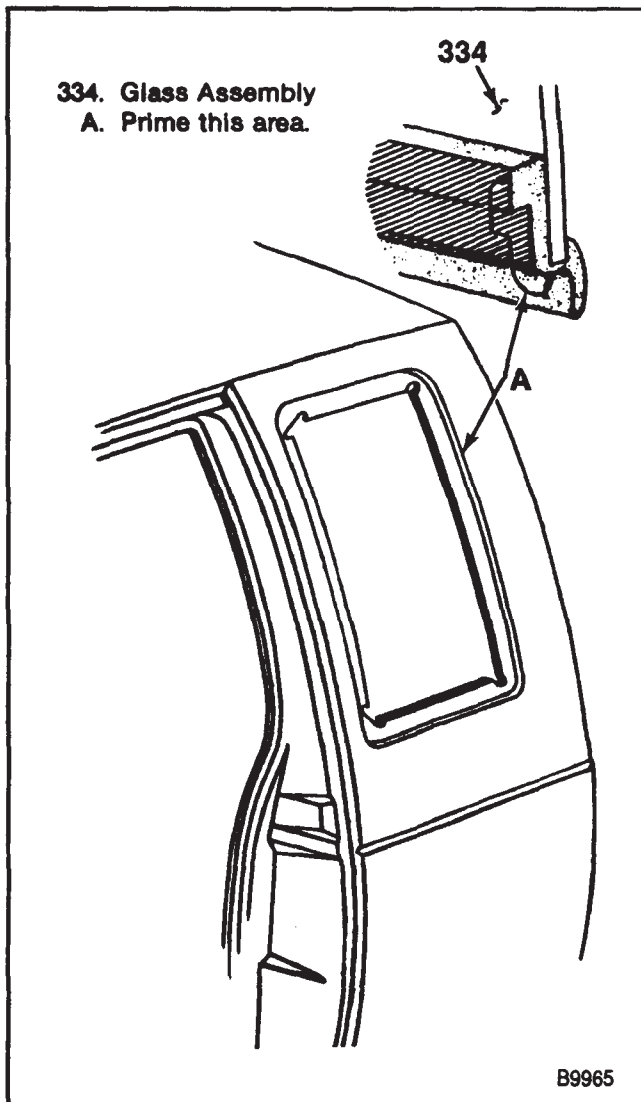

Figure 18—Primer Application Points
1. Primer from the adhesive kit to the pinchweld flange and the window molding. Allow 5 minutes for the primer to dry (figure 18).